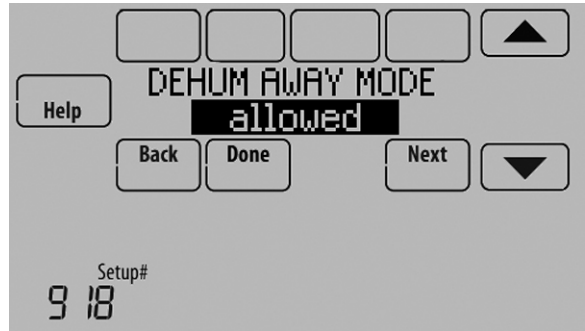

Fig. 138.
1. Select Allowed at ISU 918. See Fig. 138.